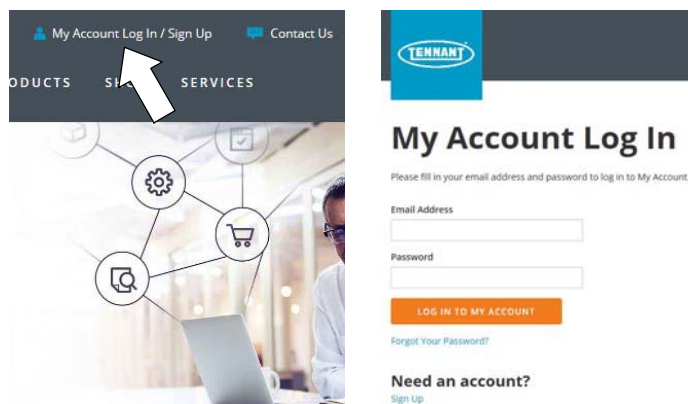

Fig. 15
1. Press “My Account Log In/Sign Up” to open or create an account (Figure 15).